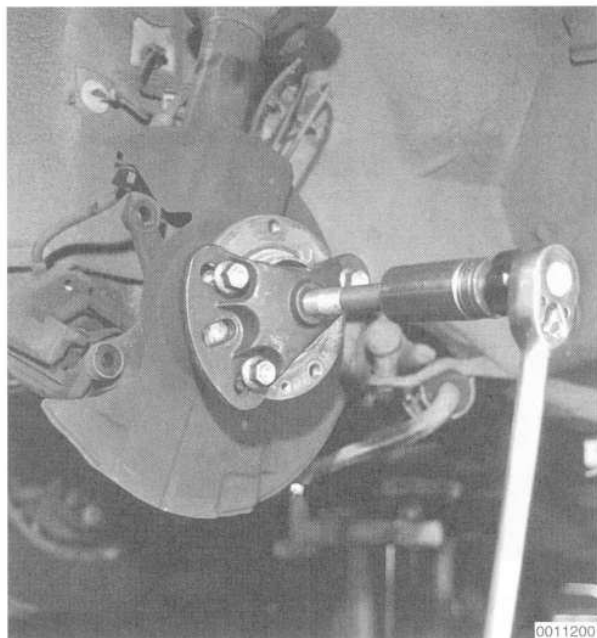

Fig. 11. Wheel hub with integral wheel bearing being removed using a puller.
10. Remove the wheel hub with integral wheel bearing from the stub axle using a puller (BMW special tool nos. 31 2 102/105/106 or equivalents). See Fig. 11.